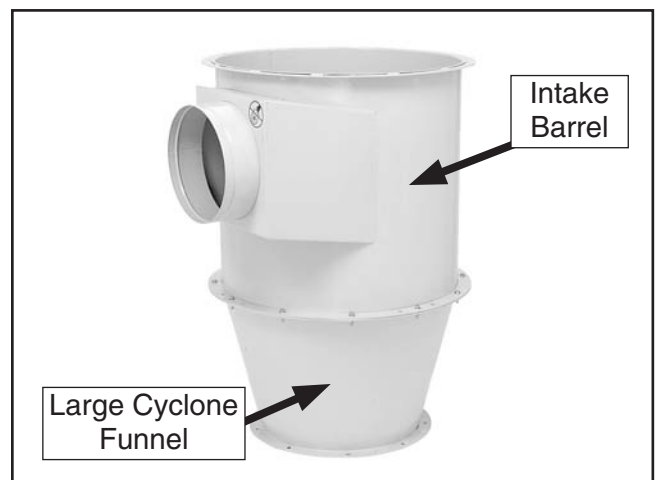

Figure 19. Intake barrel and large cyclone funnel.
- Connect the intake barrel and large cyclone funnel with (12) $\frac{5}{16}$ "-18 x $1\frac{1}{4}$ " hex bolts, (24) $\frac{5}{16}$ " flat washers, and (12) $\frac{5}{16}$ "-18 hex nuts in the mounting holes—excluding the left and right hole of the groups of three (see **Figure 19**).